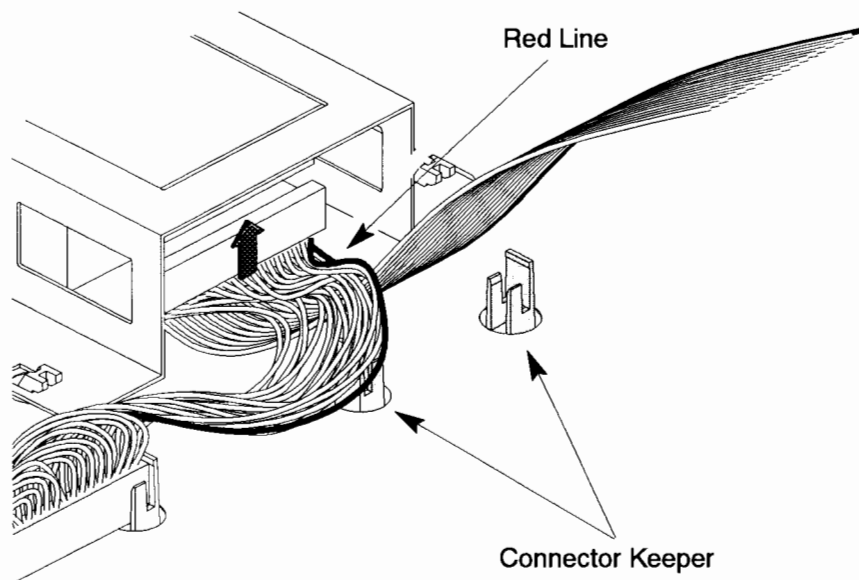

Figure B-13. Connecting the SCSI Ribbon Cable
9. For Model 715/33, 715/50, and 715/75 workstations, find the SCSI cable connector that is closest to the floppy drive and remove it from its keeper. (See Figure B-13.)
10. For Model 715/33, 715/50, and 715/75 workstations, plug the SCSI cable connector into the SCSI connector on the floppy drive as shown in Figure B-13. After completing this step, go to Step 12.
CAUTION: The side of the SCSI cable with the red line (pin #1) **MUST** be positioned as shown in Figure B-13. Be certain that you properly align the connector with the pins, and that the connector seats firmly in place.